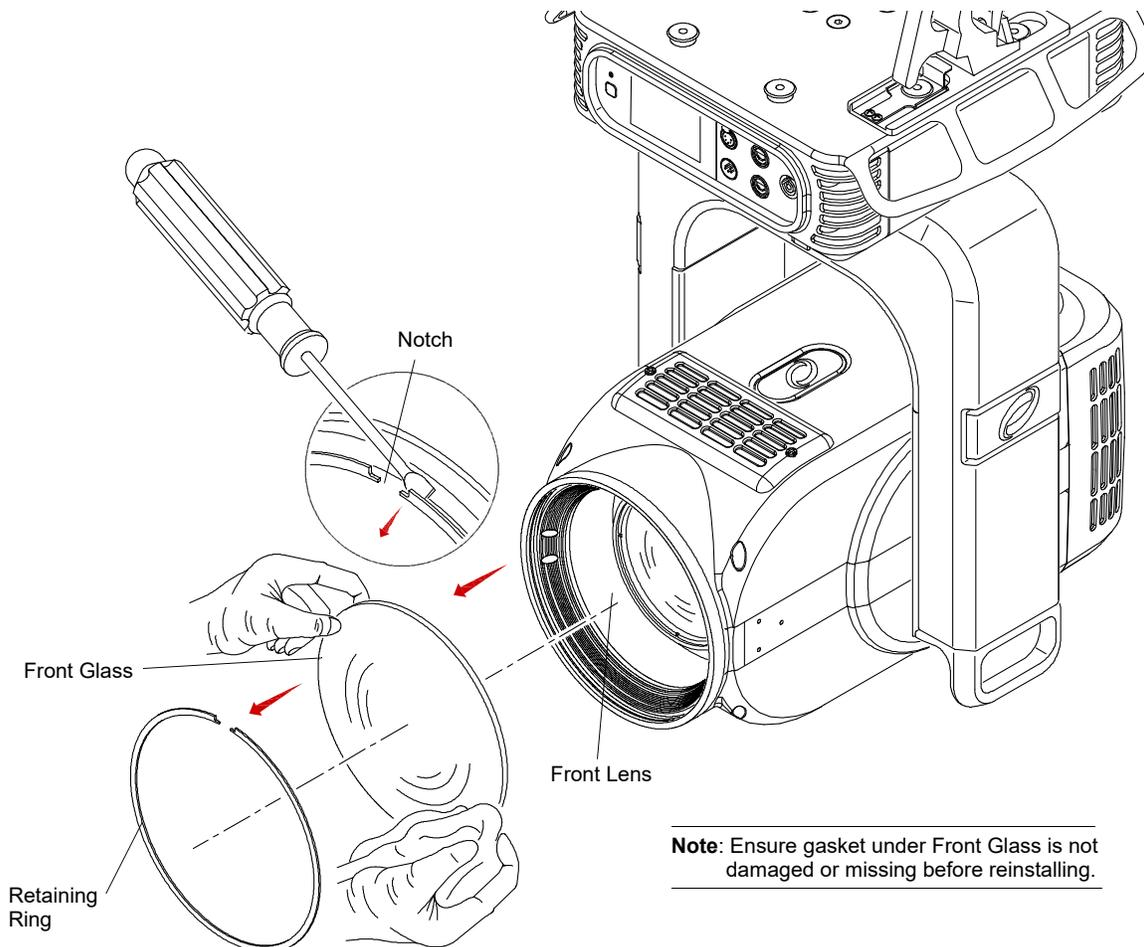

Figure 3-8: Removing Front Glass
Step 7. As in Step 5 above, clean remaining lens surfaces and front of luminaire Front Glass (**Figure 3-8**).